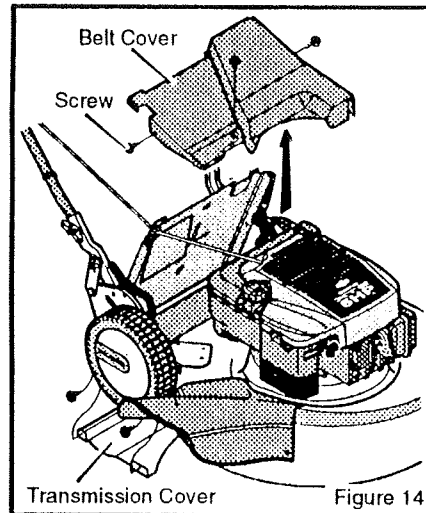

Figure 14
1. Remove the belt cover (Figure 14).